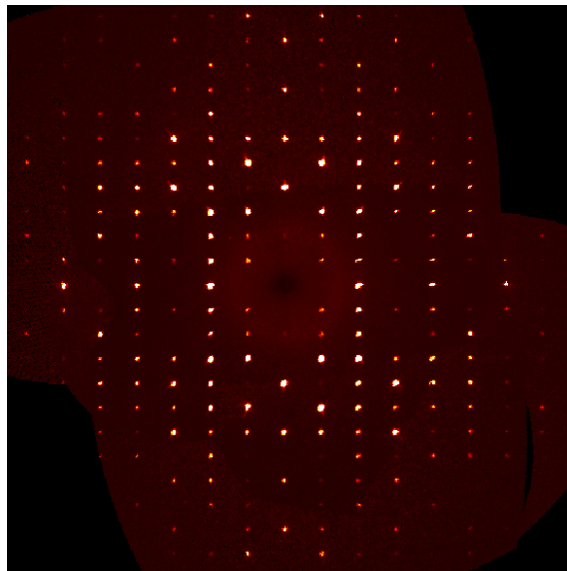
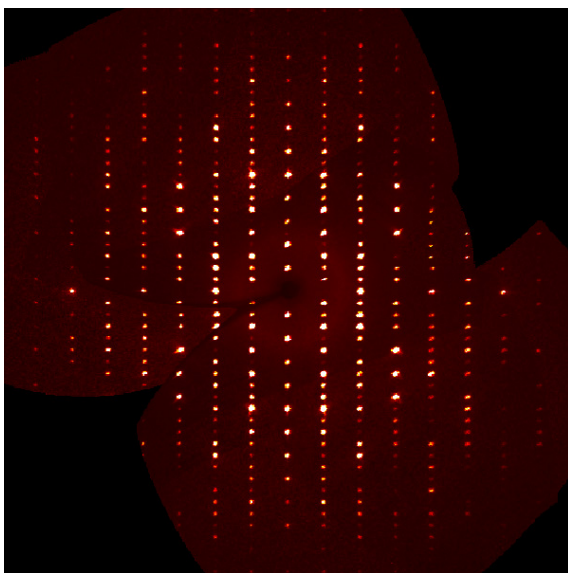
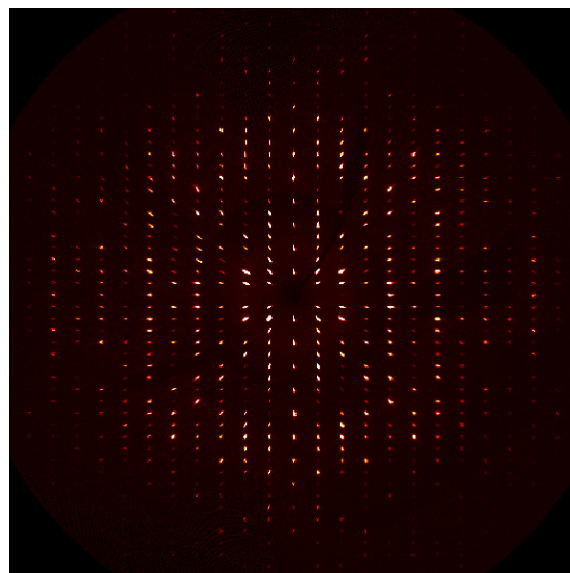
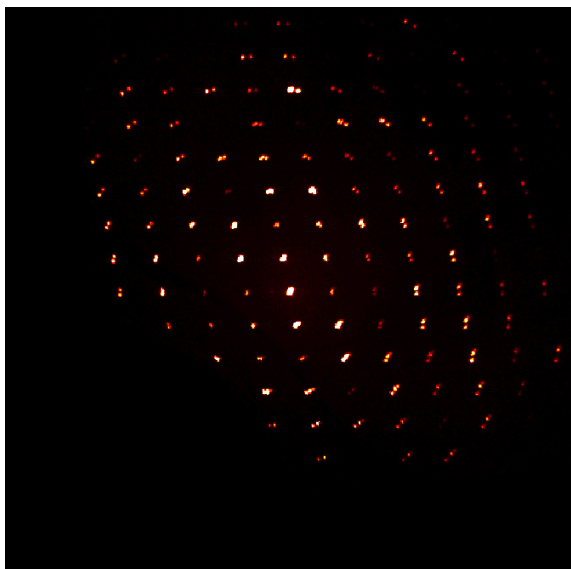

Figure 8.25 - The 0kl plane for the test YLID
Figure 8.26 - The h0l plane for the test YLID
Figure 8.27 - The hk0 plane for the test YLID
Figure 8.28 - A plane from a rotationally twinned crystal showing the two lattices
5. Use the simulated patterns to check space group symmetry (see Figure 8.25, Figure 8.26 and Figure 8.27) and to find signs of twinning (see Figure 8.28).